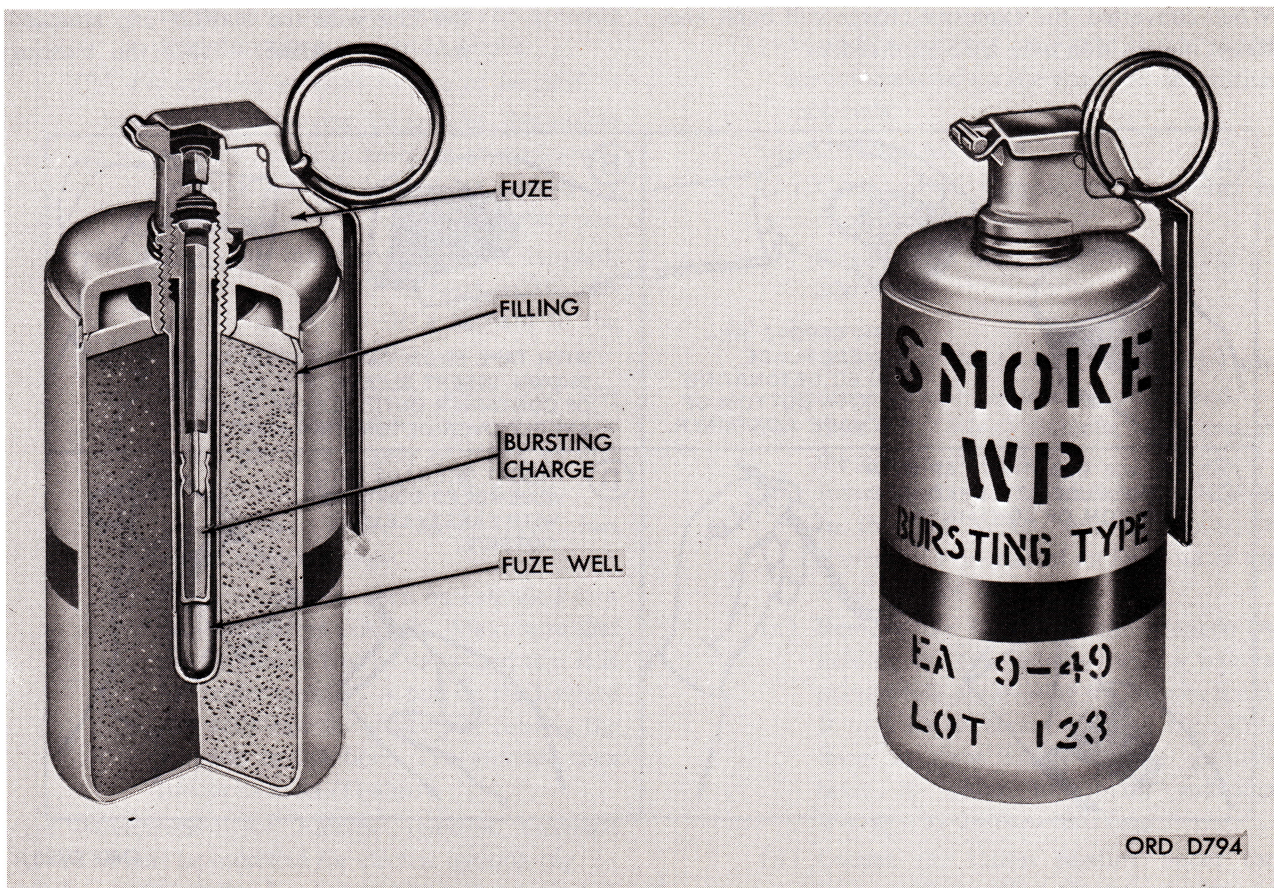

Figure 2-18. Grenade, hand: smoke, WP, M15 w/fuze M206A1.
a. General. Hand grenade M15 (fig. 2-18) is a white phosphorous (WP) smoke grenade. This grenade is a multi-purpose grenade. It is an effective antipersonnel weapon, incendiary agent, and signaling or screening smoke producer. The screening effect of the smoke is limited, however, as WP burns with intense heat and the smoke tends to rise rapidly. For information on hand and rifle grenade WP M34, see paragraph 2-18.